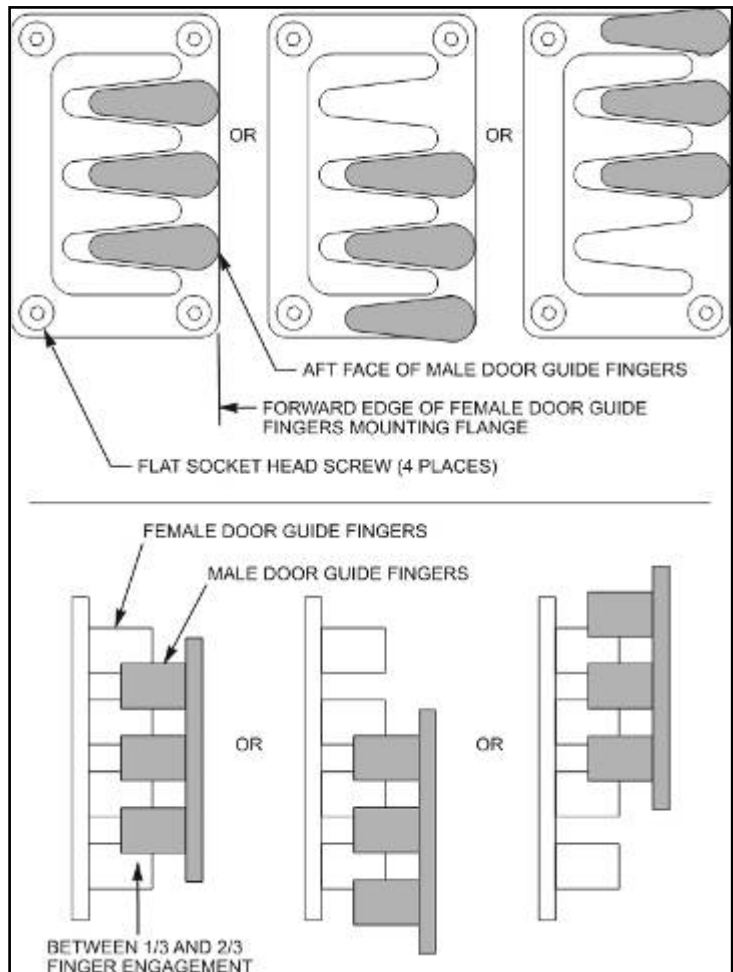

Figure 43
1. Tighten or loosen four flat socket head screws as required to ensure that they are just snug. Refer to figure 43.
3. For front or rear doors, gently close door and refer to figure 43 for proper fit of the male to female door guide mounts. Once proper fit is achieved tighten four bolts on the female door guides to 10 lb-ft (13.6 N·m).
4. Add or remove shims from under female door guides to obtain proper depth engagement. Refer to figure 43.